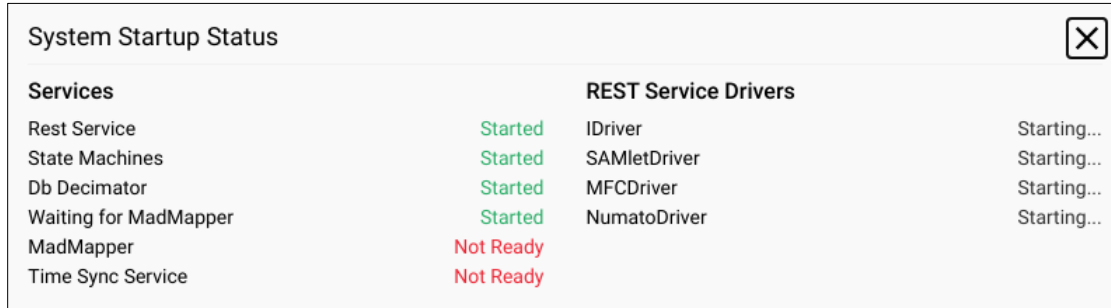

Figure 14: System Startup Status Pop-up Screen
- When SAM services are restarted, a **System Startup Status** pop-up screen will appear, showing the progression of the startup (Figure 14).